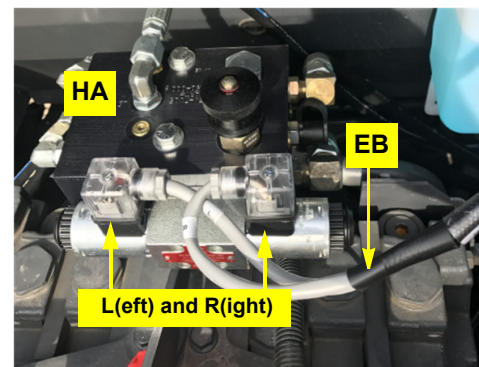

Figure 2b: Solenoid connections
- b. Connect **EB**'s left and right connectors to **HA**'s solenoids (Figure 2b).